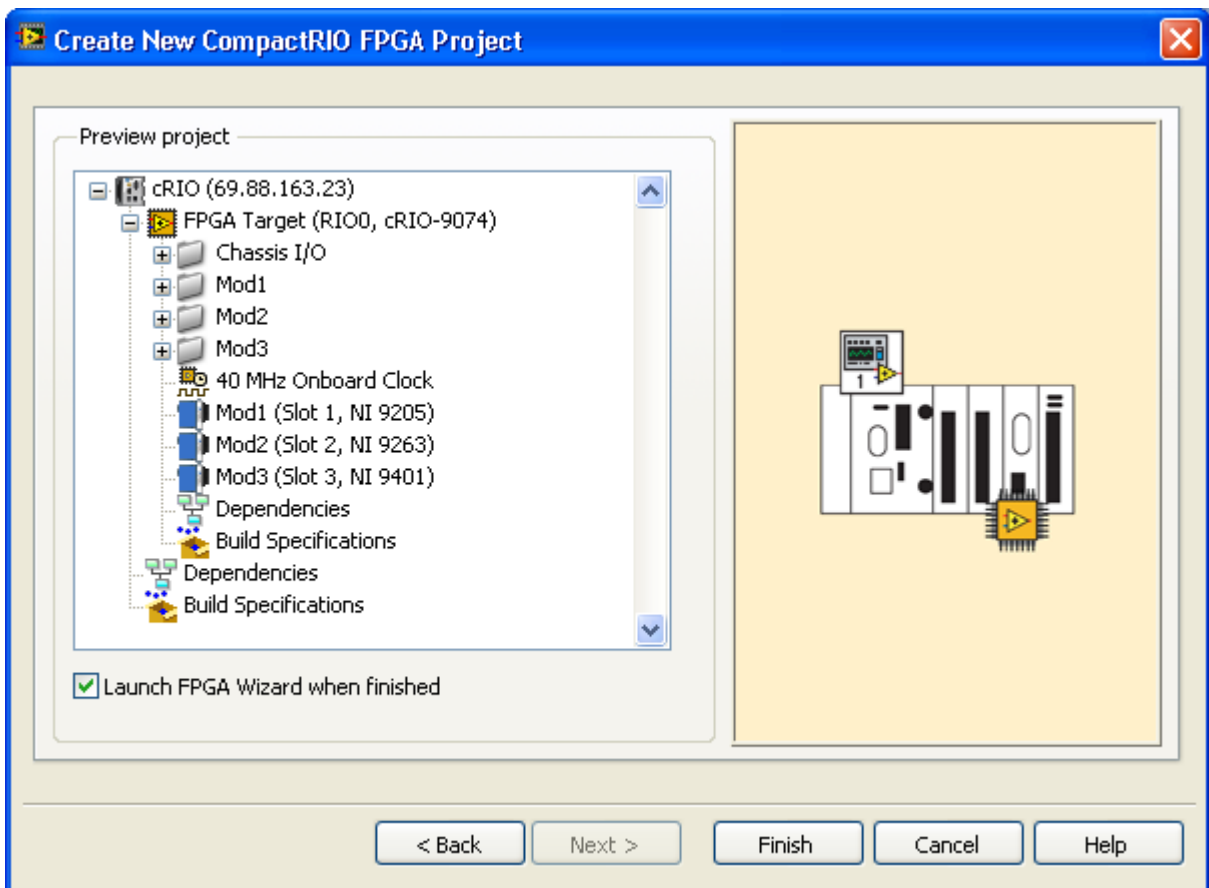

Figure A5 Create New CompactRIO FPGA Project Window- Finish
5. As a result, the screen in Figure A5 appears with the cRIO IP address. Click Finish